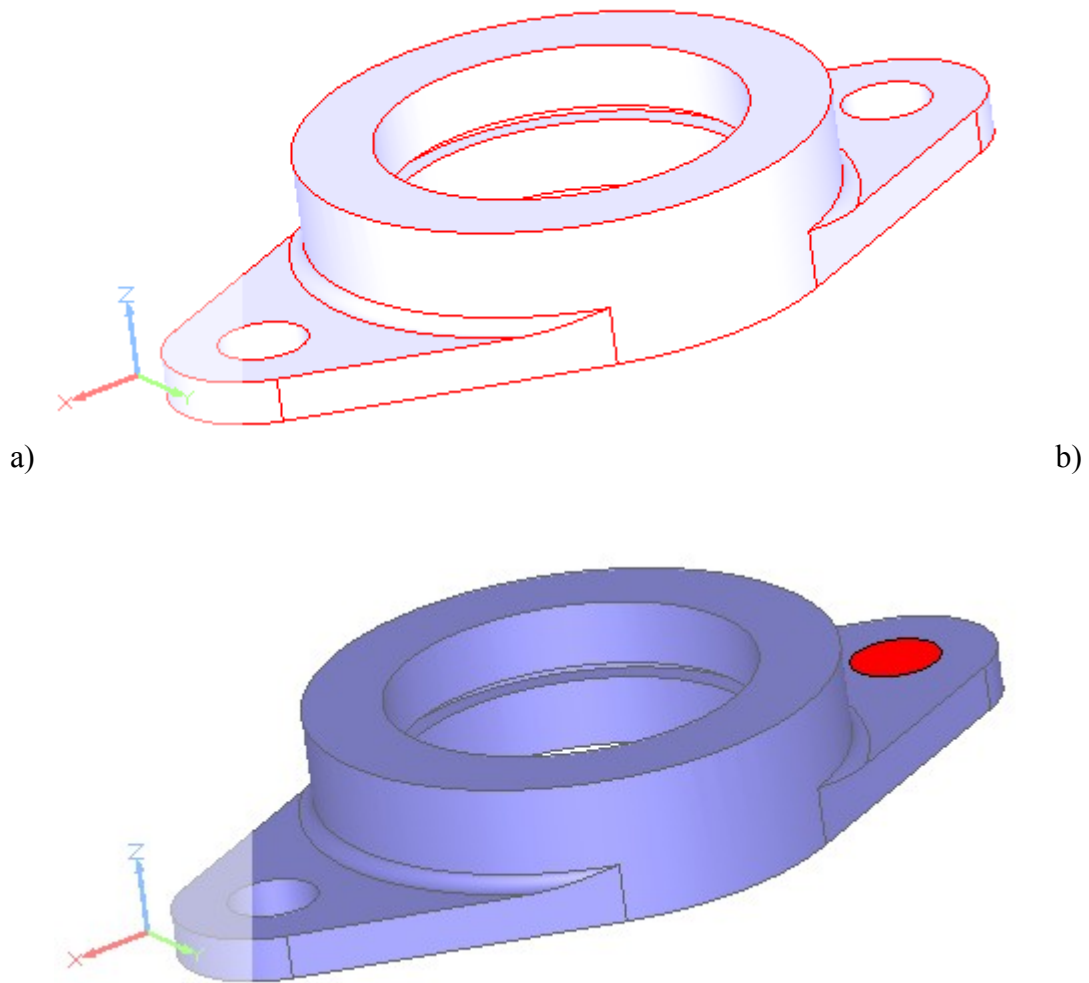

Figure 5. Diffuse light colour changed to 'lilac': a) normal, b) dark-lighted
- Back to the preferences page. Press **Apply** or **OK** buttons to apply the selected colour (see Figure 5).